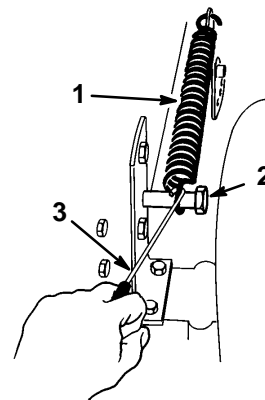

Figure 36
4. Remove the height-of-cut lift assist spring from the retaining bolt (Fig. 36), using the spring tool provided with the machine. The spring is between the frame and the right rear wheel.
13. Move the height-of-cut lever (deck lift) into the "D" notch. Hook lift assist spring onto retaining bolt for storage (Fig. 36).